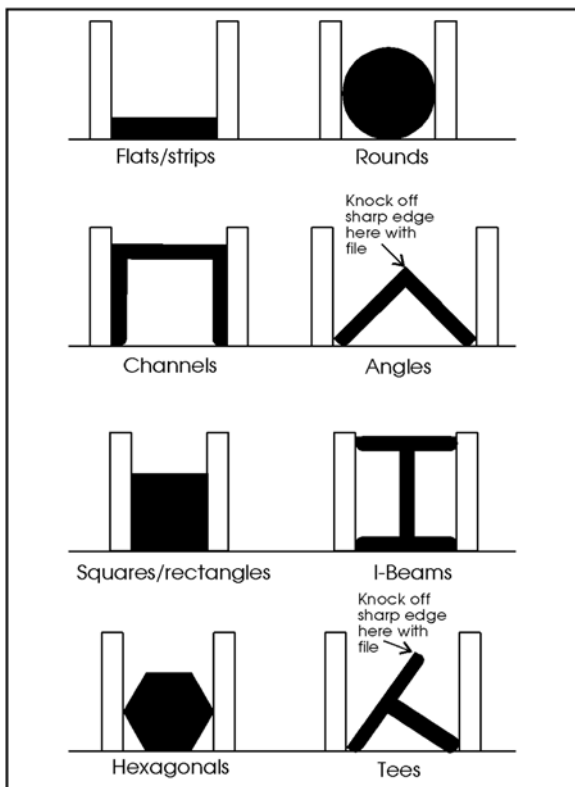

Figure 11: Clamping methods for various cross-sections of stock
The method for clamping different cross-section work pieces is shown in *Figure 11*.
2. Be certain you knock off the sharp corners of any work piece material which might damage the blade. See *Figure 11*.